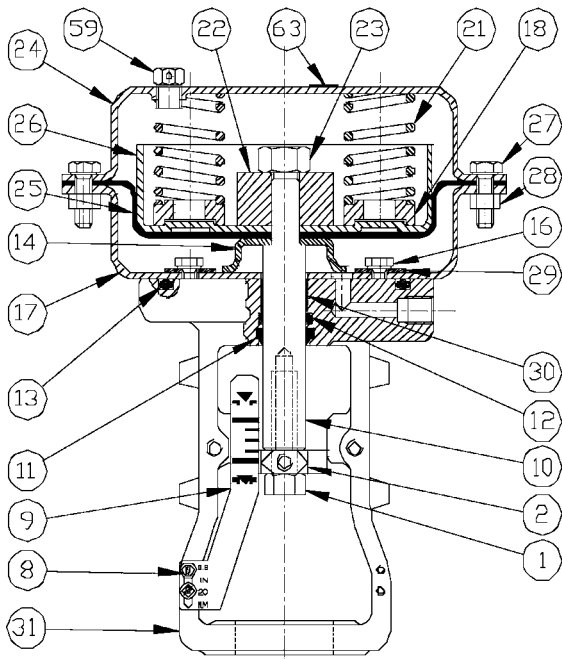

Figure 9
- J. Install spacer (14) on the actuator stem (10), Figure 9.
- K. Invert the diaphragm (25) and diaphragm plate (26), Figure 9.
- L. Coat the threads of hex nut (23) and the surfaces of the spacer (22) with Chesterton 725 nickel compound or equivalent.
- M. Check placement of spacers (14 and 22), reassemble diaphragm (25), diaphragm plate (26), and spacer (22) then tighten hex nut (23) per Table 3.
- N. Position springs (21) and spring spacers (18) [if used] in the diaphragm plate.